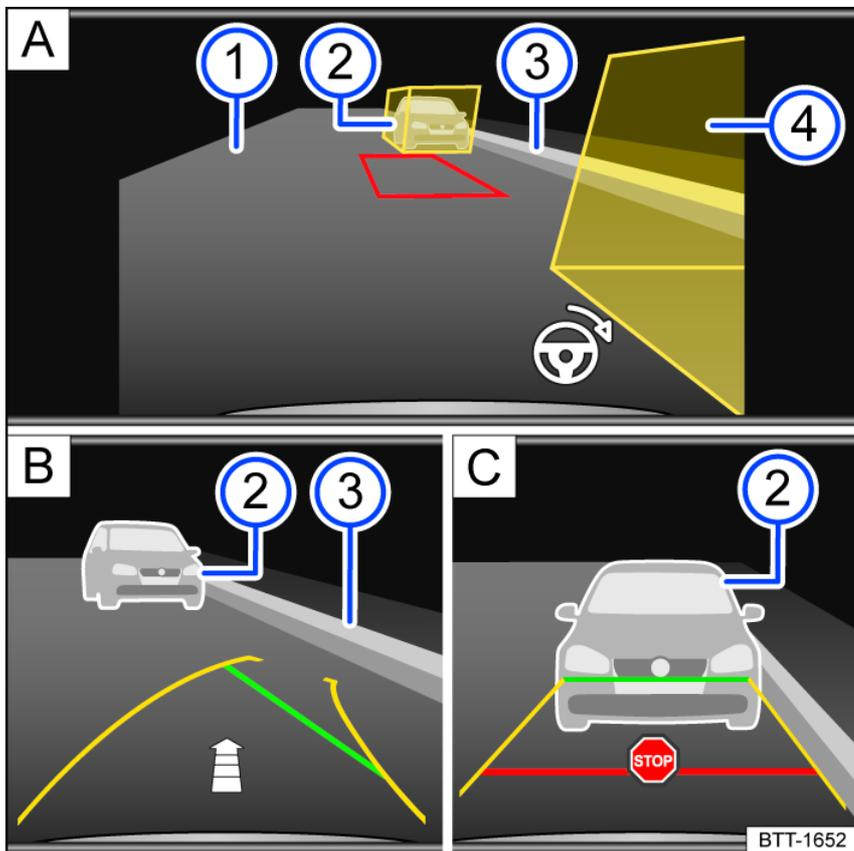

Fig. 146 Infotainment system: Parking parallel to the road.
- ① Road surface.
- ② Obstacle or assisting box.
- ③ Side boundary of the parking space.
- ④ Obstacle or assisting box.
4. Position the vehicle at a distance of approximately 1 m (3 ft) parallel to the parking row. The yellow assisting boxes must cover the obstacles fig. 146 A ②. The area in between must be free of obstacles.
5. Select the reverse gear. A red frame represents the target position of your vehicle fig. 146 A.
6. Turn the steering wheel until the red frame moves between the assisting boxes and becomes green fig. 146 A. Hold the steering wheel in this position while driving in reverse.
7. Drive slowly in reverse until the **STOP** stop symbol appears or the green line aligns with the side boundary of the parking space fig. 146 C. An fig. 146 B arrow indicates the remaining distance to be driven based on the number of displayed segments.